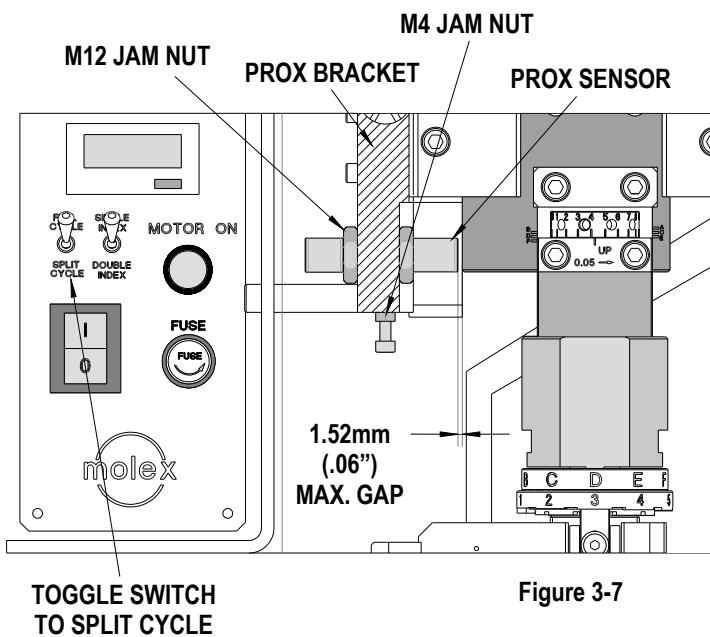

Figure 3-7
4. Loosen the two M12 jam nuts on the split cycle prox, located on both sides of the prox bracket. Then loosen the M4 jam nut holding the M4 X 25 SHCS. Turn the screw clockwise to raise the prox or counter-clockwise to lower the prox. See Figure 3-7. Raise the prox if the punch is partially crimping the terminal; or lower the prox if the ram is not closing far enough and not centering the terminal punch.
5. Retighten the M4 SHCS and the (2)M12 jam nuts positioning the prox for the 1st position of the split cycle. See Figure 3-7.
**Note:** The gap between the prox and the ram should be 1.52mm (.06") Max. See Figure 3-7.